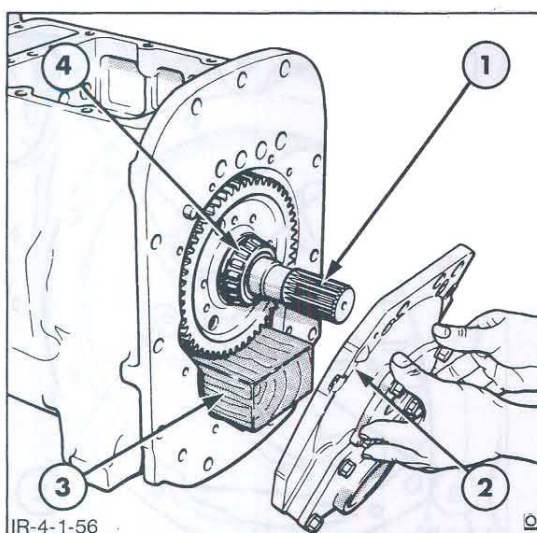

Figure 57
4. Install the output shaft into the transmission case from the rear end and mate up with the rear input shaft. Temporarily support the output shaft with a suitable wooden block, Figure 57.